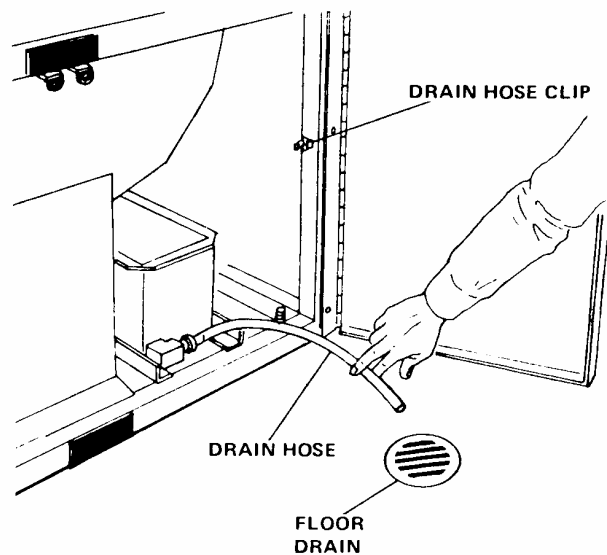

Figure 3-2. Draining Compound Tank (Model BB1224)
**MODEL BB1224.** Open doors and drain compound solution by removing external drain hose from clip and allowing solution to drain into a suitable receptacle or floor drain. (See fig. 3-2.) Flush and clean compound tank with fresh water.